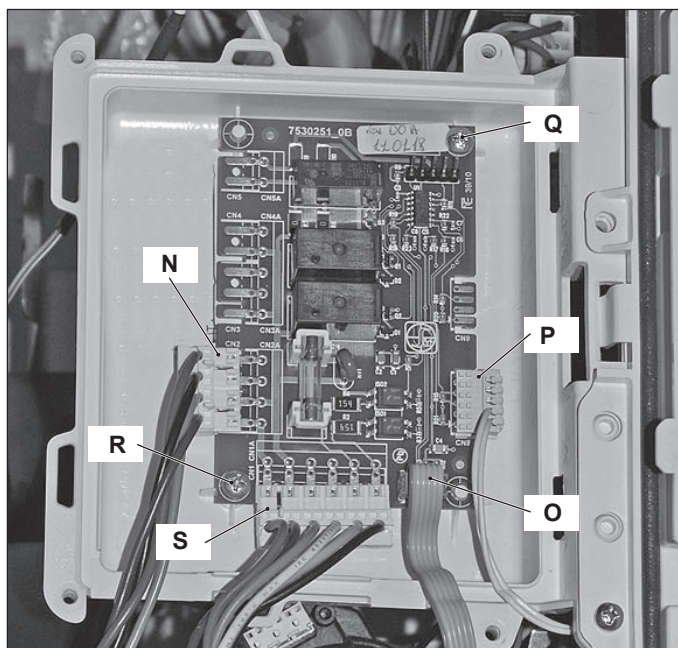

Figure 10.4
- 3 Remove all the wiring N, S, O e P connected to the *Interface electronic p.c.b.* (Figure 10.4).